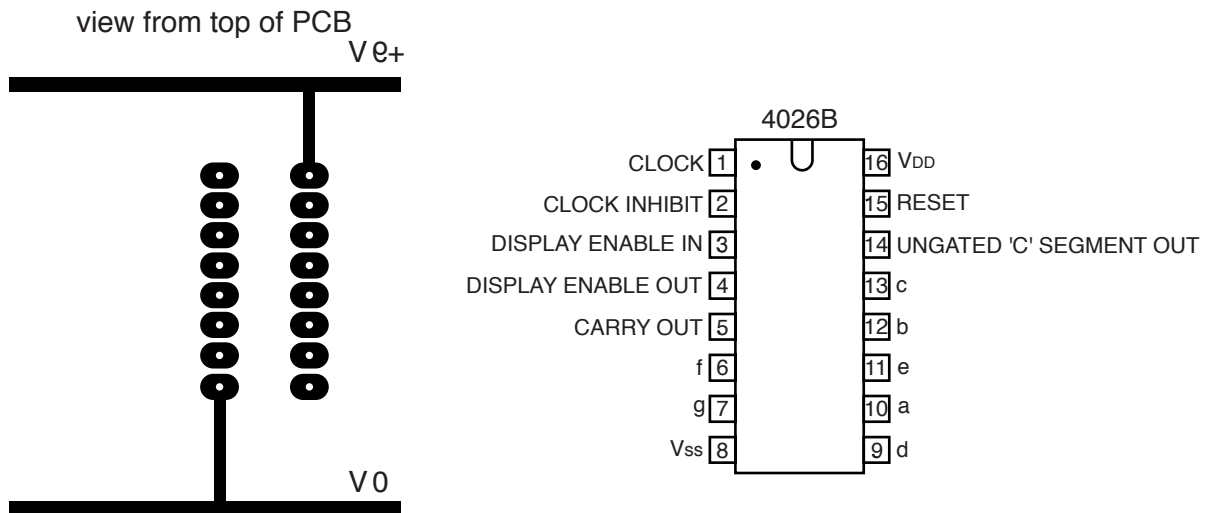

Fig. 20
- (c) Fig. 20 shows part of the printed circuit layout and the pin diagram for the 4026 IC.